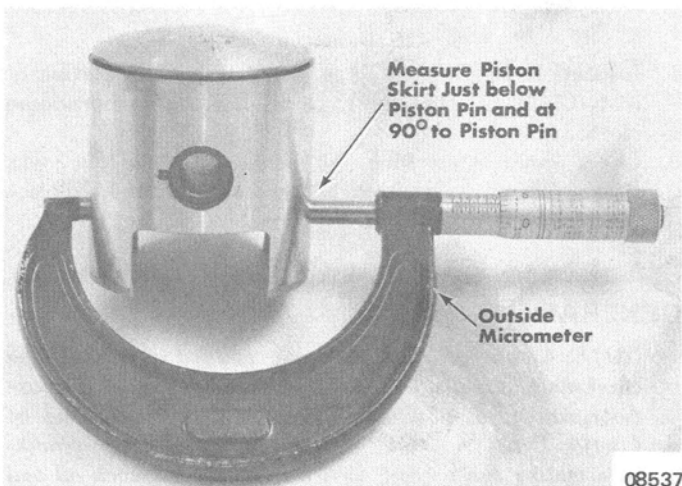

Figure 8. Measuring Piston Skirt
3. Measure piston at MIDDLE of piston skirt, just below piston pin, and at a right angle (90°) to piston pin. (Figure 8)
6. Refer to "Fitting Cylinders to Pistons", preceding (Figure 8), and check "fit" between piston and cylinders. If "Piston Skirt Clearance" exceeds specifications, piston may be worn and replacement will be necessary.